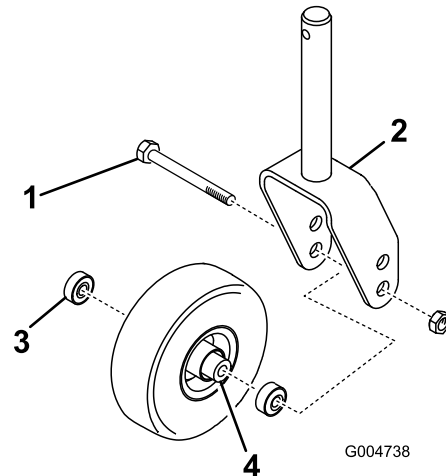

Figure 22
2. Remove the locknut from the bolt holding the castor wheel assembly between the castor fork (Figure 22). Grasp the castor wheel and slide the bolt out of the fork or pivot arm.
3. Remove the bearing from the wheel hub and allow the bearing spacer to fall out (Figure 22). Remove the bearing from the opposite side of the wheel hub.